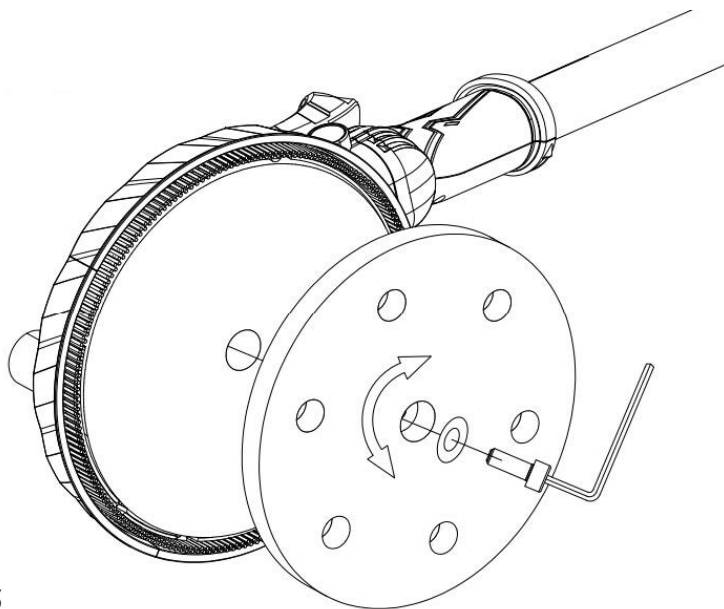

fig. 5
9. Installing or replacing abrasive disc (figure 5).